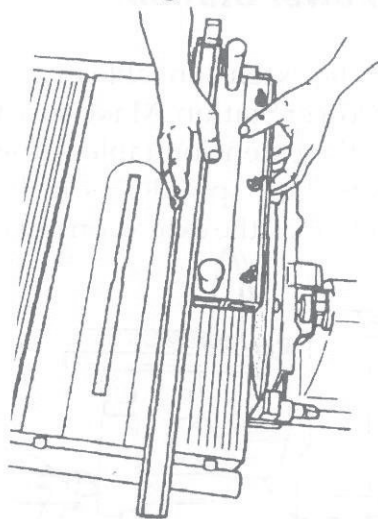

Figure 8
12. With the knife-edge touching the abrasive surface, move the rip fence so that it touches the back of the Knife Sharpener, as shown in Figure 8.